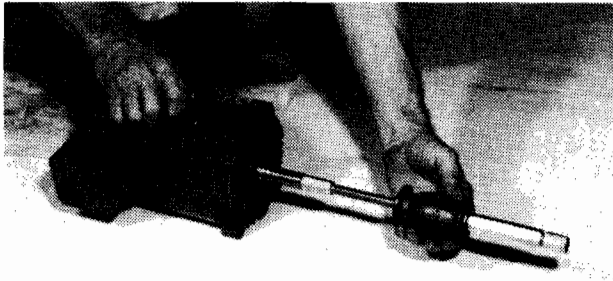

Figure 19
8. If necessary to remove pump shaft, use jack puller, Myers No. 10575B. (See Fig. 19).